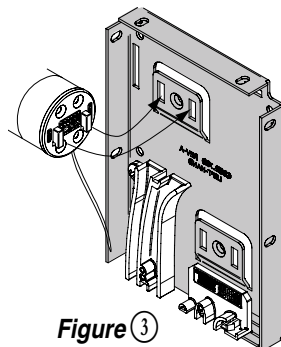

Figure 3
- 7 Slip operator end of rear shade into slots on operator end endcap (See Fig. 3).